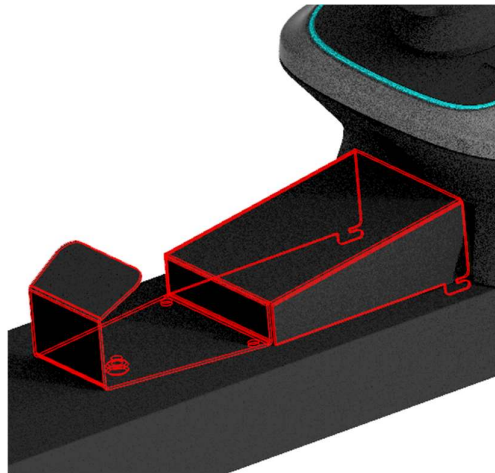

Figure A -19 Thread hook and thread guard installation
4. Insert the hanger hook and guard cover into the mounting position and push them up, and then lock them from the front with two M4*12 pattern composite screws (Torque: 1.4~1.6 N.M) with column core head, as shown in Figure A-19.